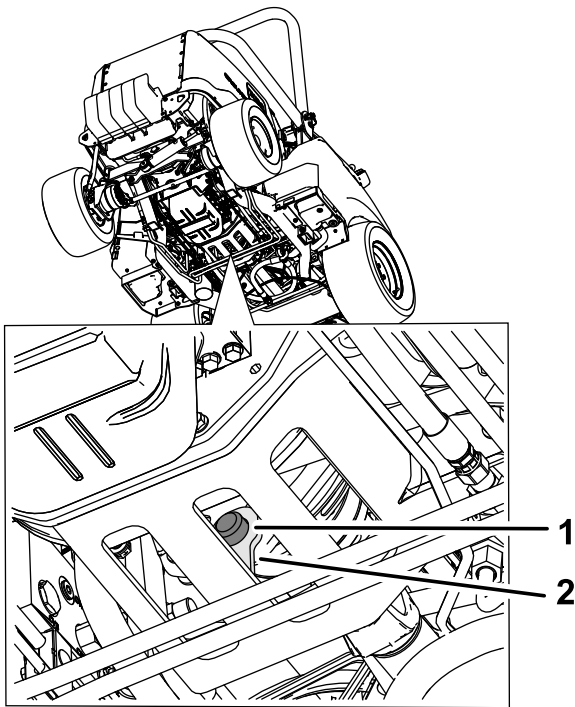

Figure 74
2. Unplug the clutch-wire-harness connector from the machine wire harness (Figure 74).
3. Remove the bolt, washer, and nut from the metal and rubber straps (Figure 74) on the frame.